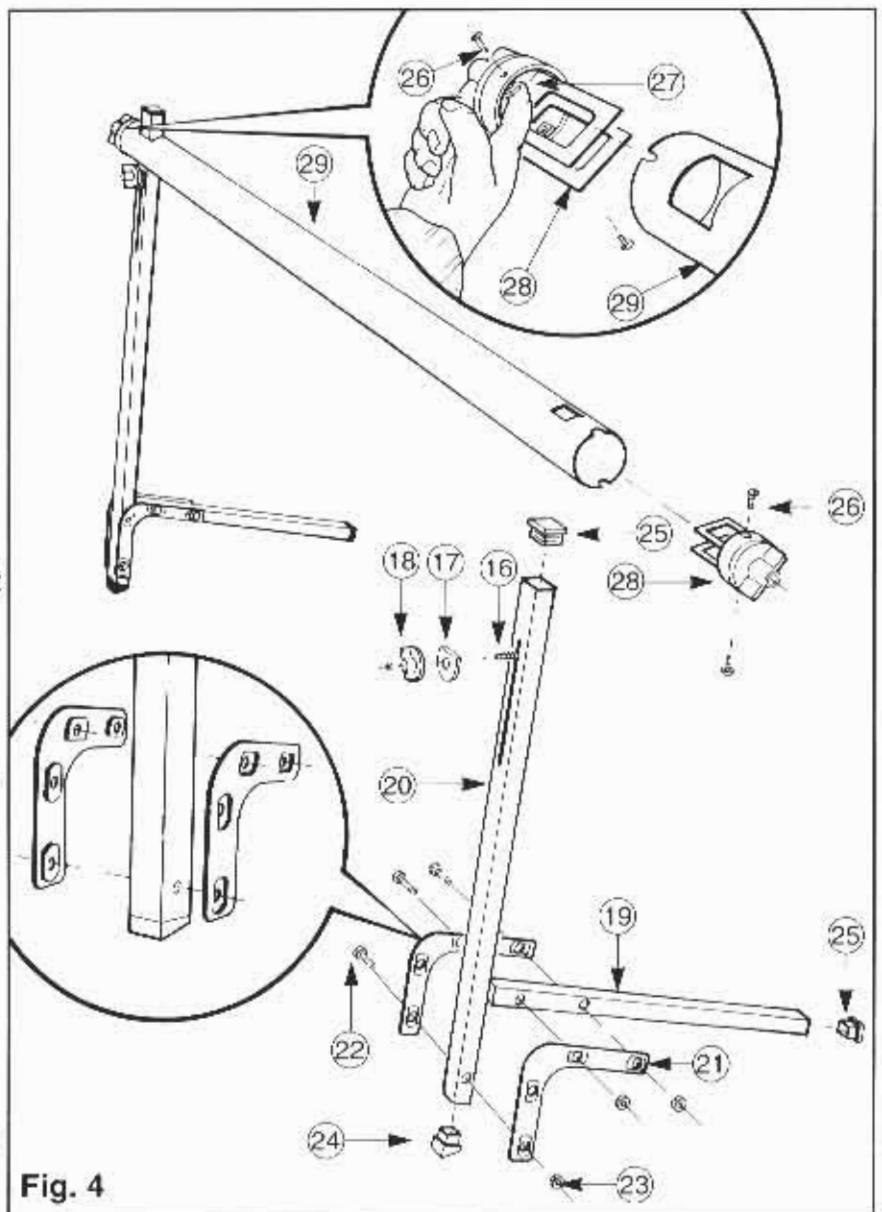

Fig. 4
Insert the Coach Bolts (16) through the slots in the Legs (20), and fit the Height Stops (17) and Round Knobs (18) onto them, as shown in Fig. 4.
Attach the Feet (19) to the legs using the Leg Plates (21), Hex Bolts (22) and Nyloc Nuts (23) as shown. Note: the raised bumps on the leg plates must face inwards, touching the legs (see lower Inset Fig. 4). The feet should face away from the leg slots as shown.
Loosely fit the Philips-Head Screws (26) and Square Nuts (27) through the holes in each Clamp Assembly (28) as shown in the top inset Fig. 4. Tap the assemblies onto the ends of the Outer Track (29) clamping the screws in the notches.